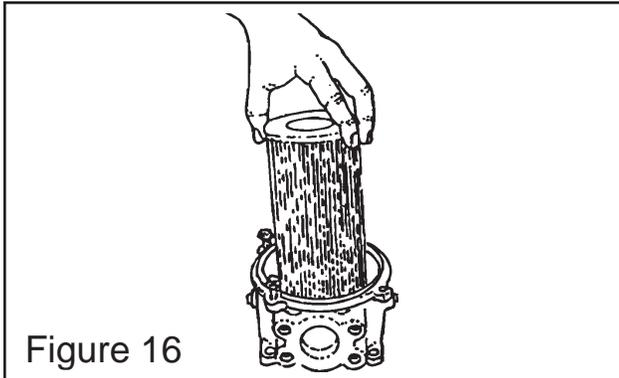

Figure 16
5. Remove filter spring. Pull the filter spring up out of filter housing (See Figure 15). Pull old filter up and out of filter housing. Use caution the housing may still have oil in it. (See Figure 16)
1. Remove filter. Inspect material trapped by the filter. It can indicate parts wear in the system. (See Figure 16)
3. Install the new filter. Install the new filter into the filter canister. (See Figure 16) It will not be required to fill filter canister with oil as the filter is on the supply return line. Do not operate system with out a filter and do not operate with incorrect filter. Use only the correct micron size filter that is designed for this system. (See Figure 16)